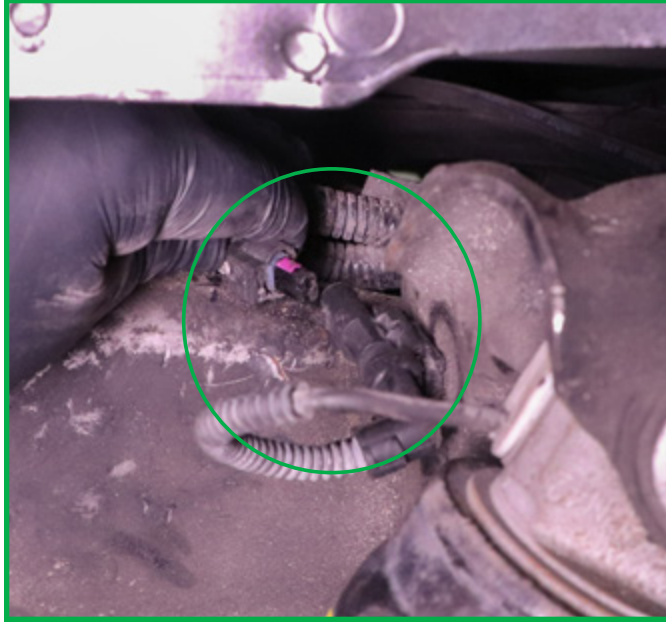

FIGURE 3
4. Locate and remove the electrical connection from the top of the shock. Detach the strut connection from the clip on the vehicle. (Figure 3)